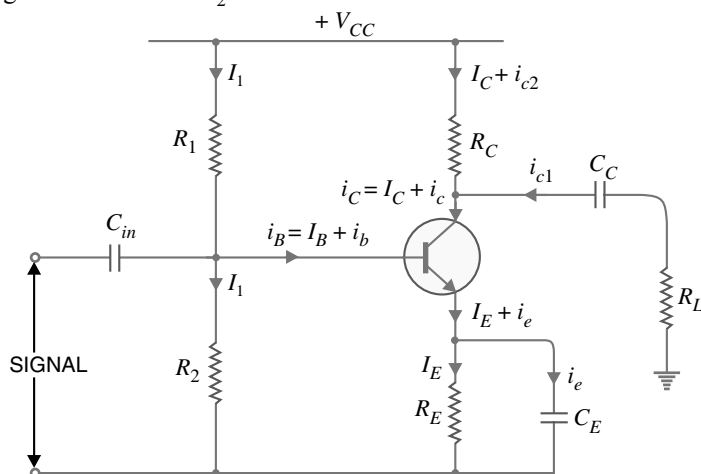

Fig. 8.3
It is important to note that a transistor can accomplish faithful amplification only if proper associated circuitry is used with it. Fig. 8.3 shows a practical single stage transistor amplifier. The various circuit elements and their functions are described below :
**Various circuit currents.** It is useful to mention the various currents in the complete amplifier circuit. These are shown in the circuit of Fig. 8.3.
**Example 8.1.** What is the role of emitter bypass capacitor  $C_E$  in CE amplifier circuit shown in Fig. 8.3? Illustrate with a numerical example.
**Solution.** The emitter bypass capacitor  $C_E$  (See Fig. 8.3) connected in parallel with  $R_E$  plays an important role in the circuit. If it is not used, the amplified a.c. signal flowing through  $R_E$  will cause a voltage drop across it, thereby reducing the a.c. output voltage and hence the voltage gain of the amplifier.